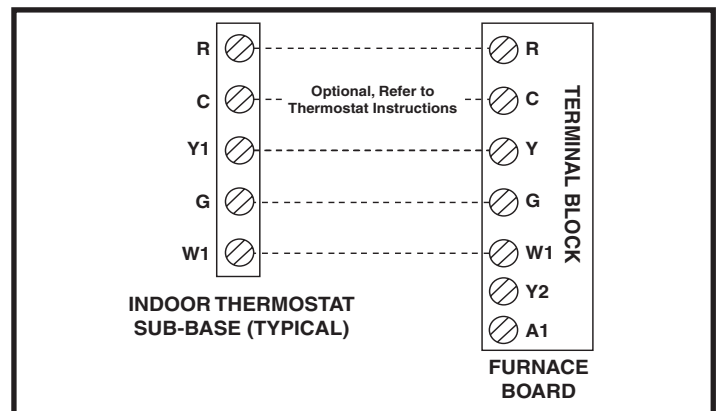

Figure 6. Typical Thermostat Connection (Field Supplied) for 1-Stage Cool / 1-Stage Heat
- This unit is designed to operate from a 24 VAC Class II control circuit. A single stage cooling / single stage heating thermostat should be used with this unit. See Figure 6 (page 11) for typical thermostat connection.